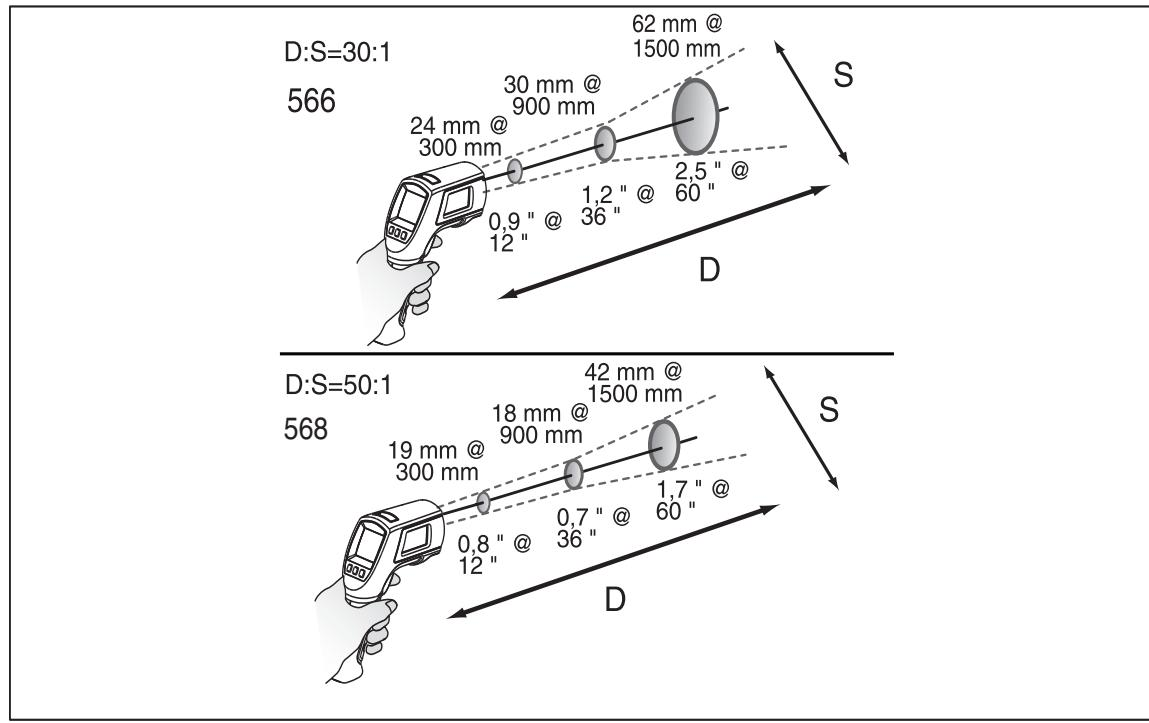

Figure 5. Distance and Spot Size
As the distance (D) from the object being measured increases, the spot size (S) of the area measured by the unit becomes larger. The relationship between distance and spot size (D:S) for each unit is shown in Figure 5. The spot sizes indicate 90 % encircled energy.